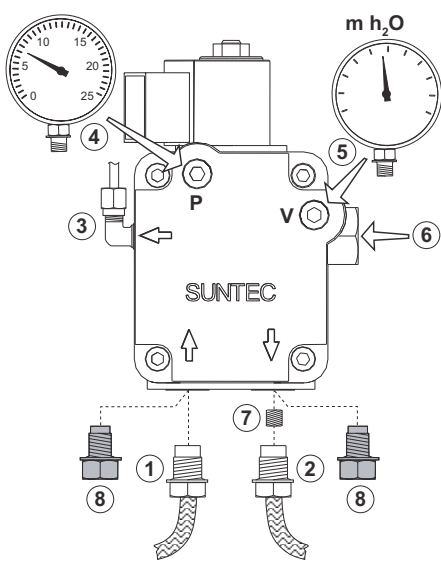
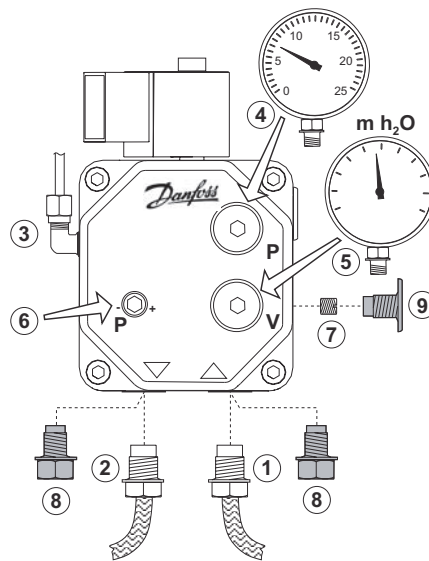

fig. 4a - Pump Suntec
fig. 4b - Pump Danfoss
The burner leaves the factory with the bypass inside the pump closed (ref. 7 - fig. 4a and 4b), i.e. the burner is arranged for two-pipe connection. Remove the caps (ref. 8) and connect the two hoses to the pump, in suction (ref. 1) and return (ref. 2) as shown in fig. 4a and fig. 4b, taking care not to twist the hoses, and position them so that they cannot be stepped on or come in contact with hot parts of the boiler.
**with SUNTEC pump** (see fig. 4a) - remove the bypass screw (ref. 7) and close the return union (item 2) on the pump with a suitable cap. Connect only the suction hose to the inlet union (ref.1).
**with DANFOSS pump** (see fig. 4b) - unscrew the cap (ref. 9), remove the bypass screw (ref. 7) and close again with the cap (ref.9). Connect only the suction hose to the inlet union (ref.1). Unscrew the cap (8) from the return union (ref. 2) and close the union on the pump with a suitable cap.